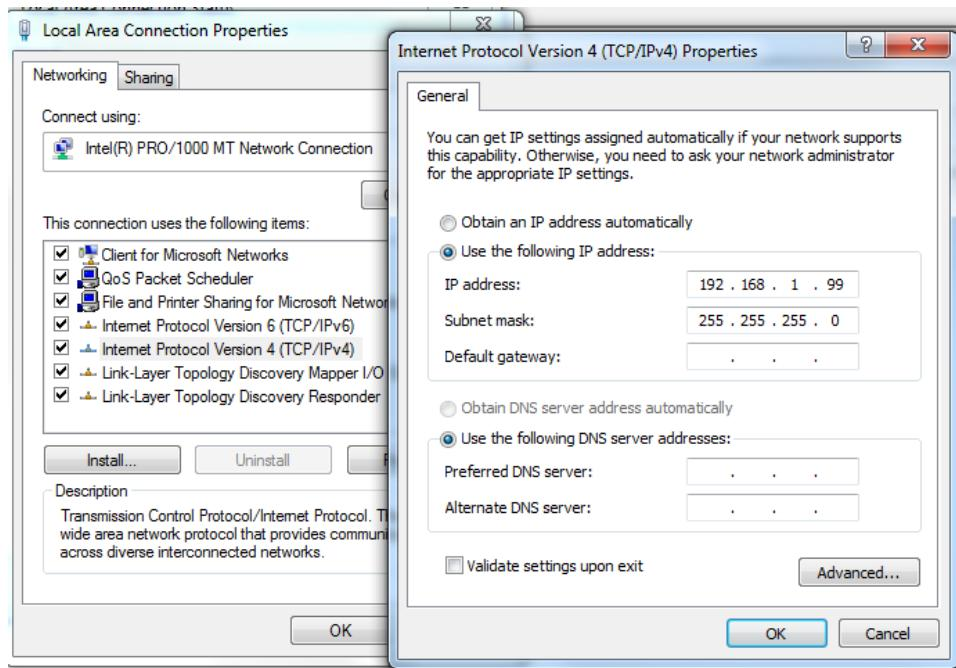

Figure 40: Network IP address
- (d) Double click (*TCP/IPv4*). Here is where you are able to change the network's IP address (Figure 40). Change it to be within the same range as the drive and controller. Example: